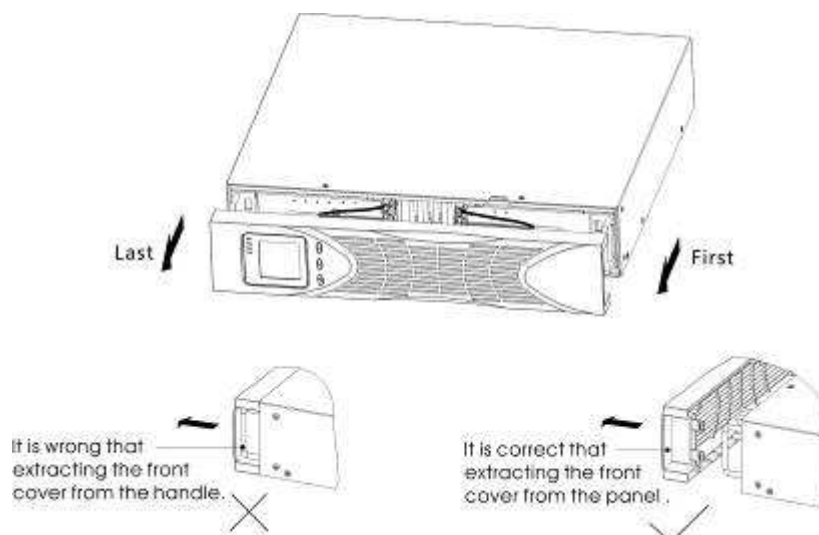

Figure11 Removing the EBP Front Cover
1. Remove the front cover of each EBP and UPS (see Figure 11).